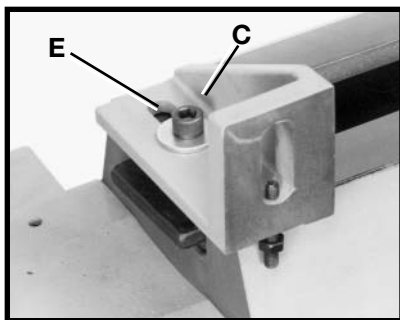

Fig. 6
5. Slide the remaining mounting bracket assembly (C) Fig. 6 onto the lathe bed at the headstock end of the wood lathe. Move it to about one inch from the end of the lathe bed. **NOTE:** Loosely tighten hardware (E).